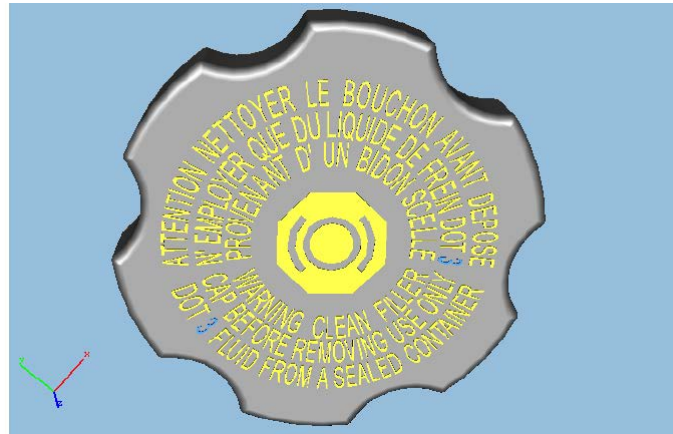

Figure 2: General Layout for DOT 3 Cap for North America
3.1.1.2.3.2 The general layout of the text for the cap shall be as shown in Figure 2.